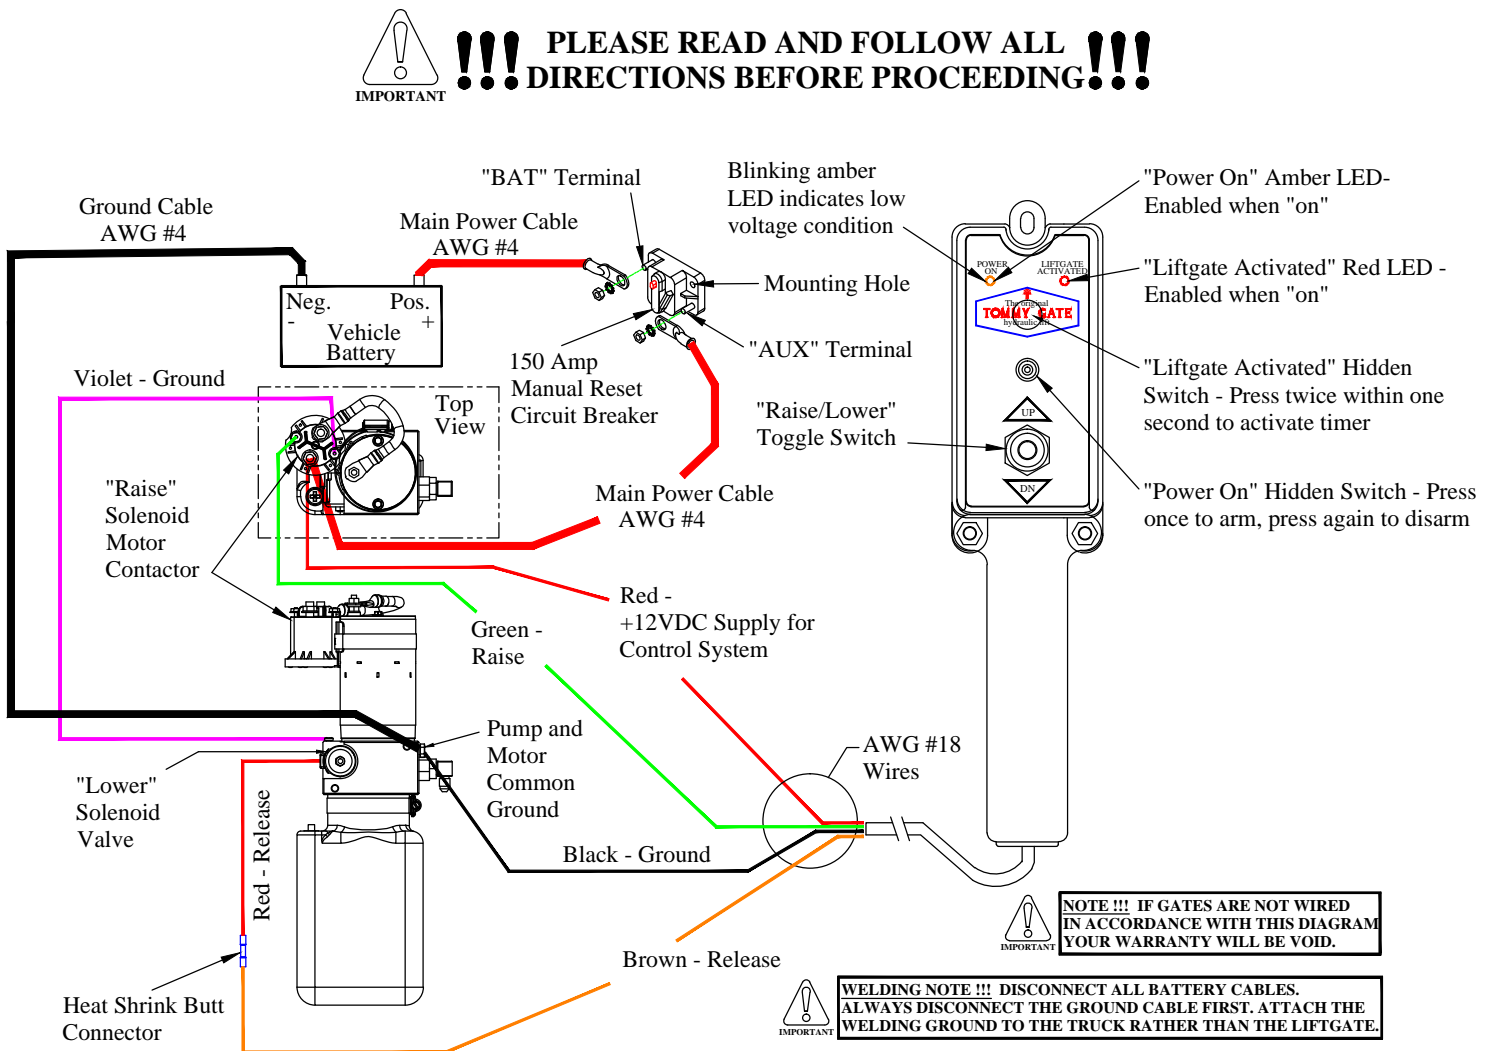

Figure 17: Wiring Diagram.
11. Connect the circuit breaker and battery as outlined in the *Tommy Gate Recommended Electrical Wiring Guidelines* and wiring diagram (Figure 17).
12. Push the hidden "Power On" switch (Figure 17). The amber "Power On" LED will illuminate.